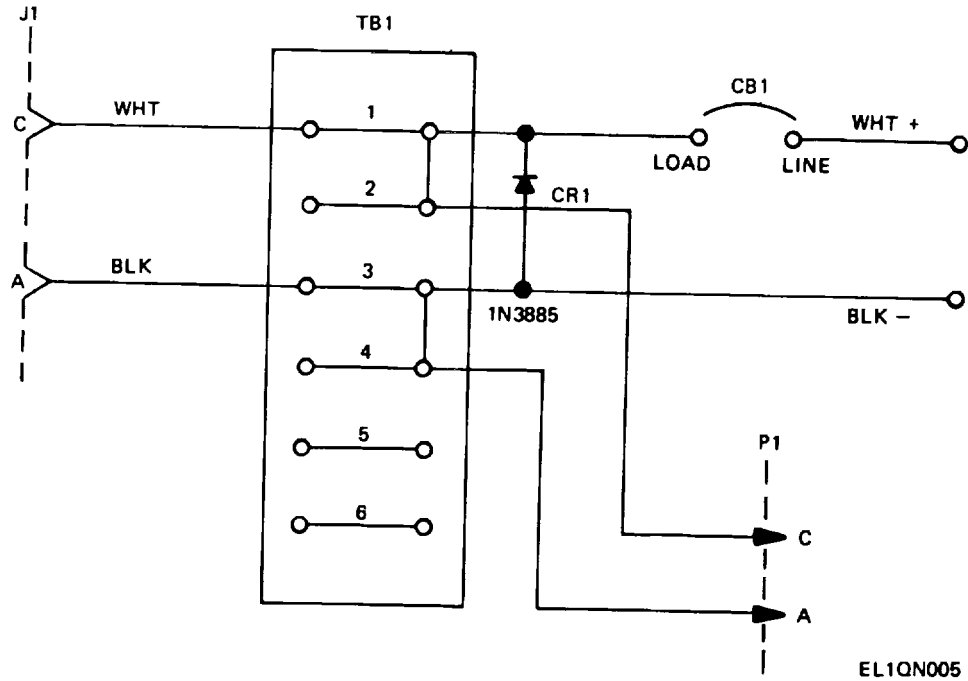

Figure 4-17. Truck adapter kit schematic diagram.
- d. *Procedures.* Refer to figure 4-17 and perform continuity measurements to locate open or short circuits. Check front-to-back resistance ratio of CR1; ratio should be 1000:1, minimum.